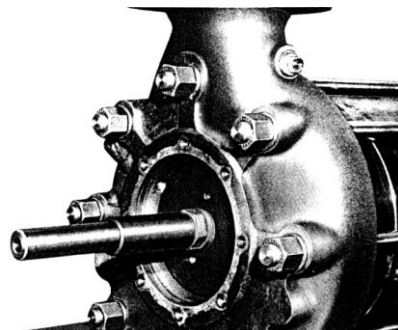

Fig. 76 - Mounting the shaft protecting sleeve
1. Slip shaft protecting sleeve (524.2) onto shaft (210) after insertion of O-ring (412.3), and pull it tight against spacer sleeve (525.2) (see Fig. 76).
2. Mount stuffing box housing (451) with flat gasket (400.3). In the case of pumps equipped with cooled stuffing boxes, mount the stuffing box housing (451) together with cooling compartment cover (165) (see Fig. 76).